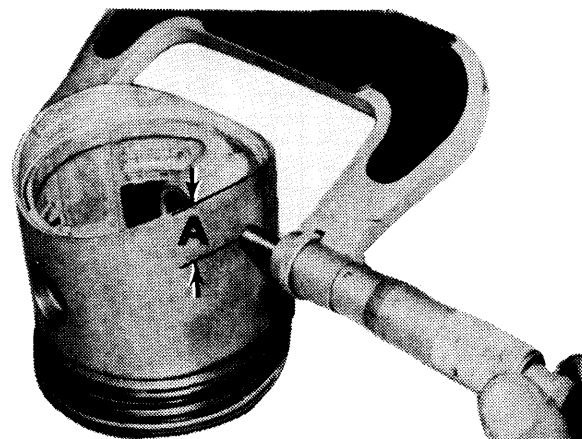

Fig. 7 View Showing Correct Procedure to Measure Piston Diameter
- 1) With piston removed and disassembled from connecting rod, measure diameter of piston. Measure with micrometer positioned 90° from pin hole and at a point measured from bottom of piston skirt (Distance "A", see Fig. 7). NOTE — Distance "A" depends on piston manufacturer, see table below.